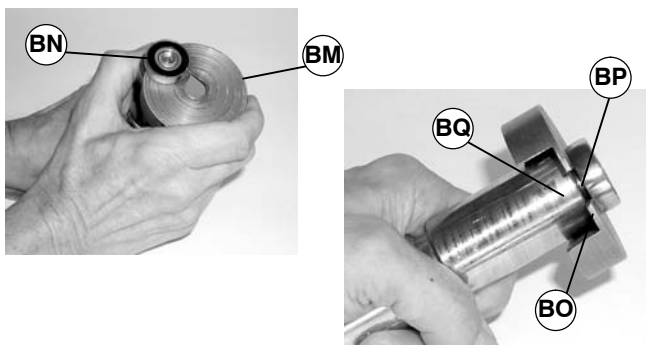

Figure 35
1. Place bearing removal tool (BM of Figure 35) (part # 456063) below bearing (BN) with lip (BO) located in gap (BP) between bearing and spindle hub (BQ) as shown.